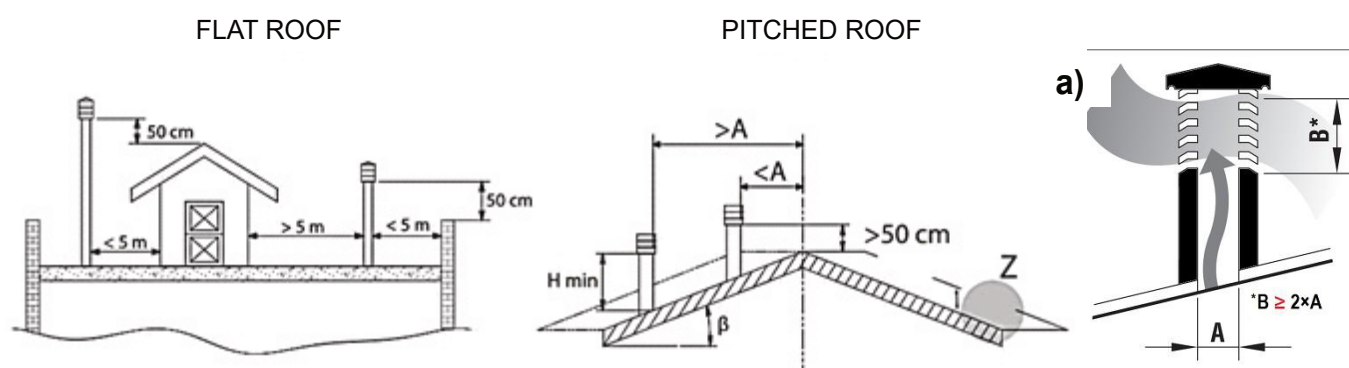

Figure 2
- installed **to enable proper dispersion and dilution of combustion products outside the reflux zone** (backflow) because the counter pressure occurs here. Therefore, it is necessary to adhere to limitations listed in *Figure 2*,